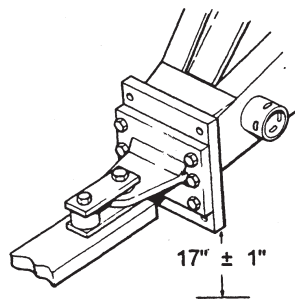

Figure 1-8 Hitch
2. The front drawbar hitch on the baler can be adjusted up or down or inverted 180° (see Figure 1-8) to achieve proper alignment with the tractor drawbar. The distance from the bottom of the baler hitch mount to the ground should be $17" \pm 1"$. Connect using quantity 8 of 5/8" x 2-1/2" Grade 8 bolts, lock washers and nuts. Torque nuts to 240 ft. lbs.